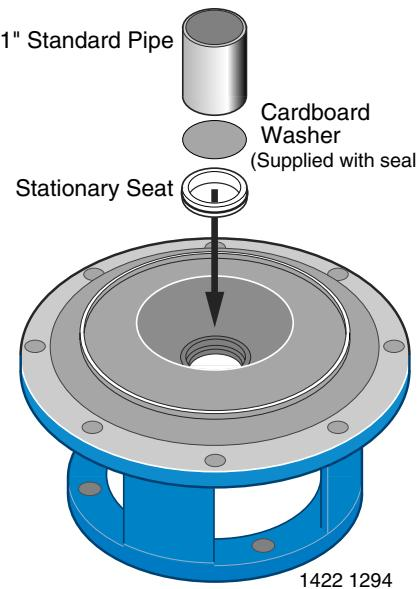

Figure 6
Step 5. If stationary half of seal does not seat after recleaning adapter/seal plate cavity, place a cardboard washer over polished face of seal and **carefully** press into place using a piece of 1" standard pipe as a press. (Figure 6). **NOTE: BE SURE** you do not scratch seal face.